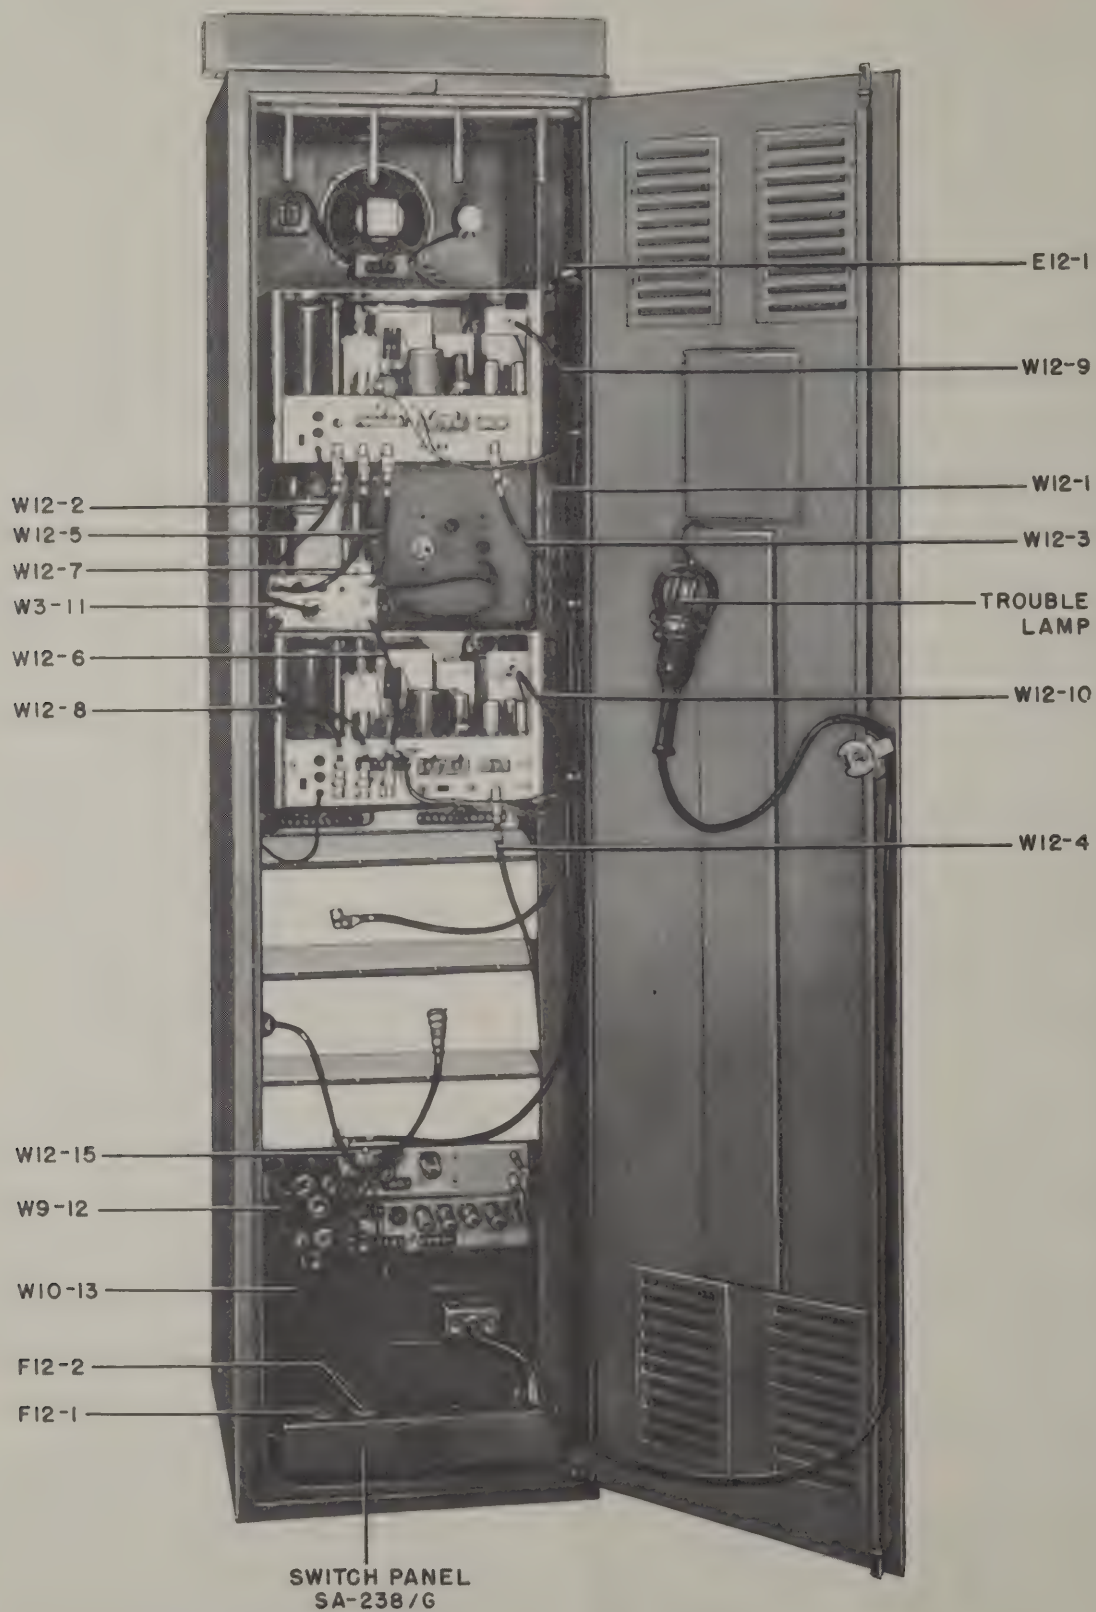

Figure 3-1. Radio Receiving Set AN/FRR-28, Rear View with Door Open
f. CONNECTING CABLES.—All power and coaxial cables are labeled so as to indicate the unit connections. Figures 3-1 and 3-15 show the cable connections.
All external signal lines are connected to terminal block E12-1. See figure 3-1. Terminals 1 and 2 on E12-1 correspond to LINE 1 on Communication Patching Panel SB-224/UR, terminals 3 and 4 to LINE 2, terminals 5 and 6 to LINE 3, and terminals 7 and 8 to LINE 4. When unbalanced grounded signal lines are employed, the grounded side of the line must be connected to terminals 1, 3, 5, and 7.
a. GENERAL.—After the rack, units, and all cabling have been checked for obvious defects, and have been assembled, the initial adjustments and operational checks may be made. Turn Switch Panel SA-238/G on. (See figure 3-1.)